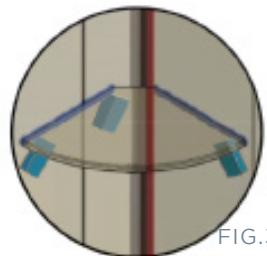

FIG.30
- Carefully place shelf on stabiliser blocks and gently push into corner. Check the level and add additional blocks to top of shelf to hold in place while adhesive cures. (FIG 30).